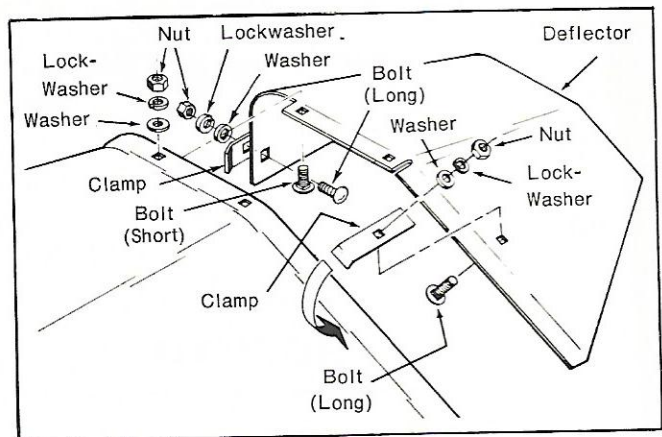

Figure 1
2. Assemble discharge chute deflector to underside of mower housing, using two (short) carriage bolts, flat washers, lockwashers, and nuts, by inserting carriage bolts through deflector and then through mower housing. Tighten nuts finger tight. Assemble clamp to front and rear of deflector and mower housing using two (long) carriage bolts and nuts. Do not use flat washers and lockwashers at this time. Tighten nuts on clamps securely with a wrench until clamps are bent to fit tight against mower housing. Remove nuts from clamps and add flat washers and lockwashers. Replace nuts on clamp and tighten securely (See Fig. 1).